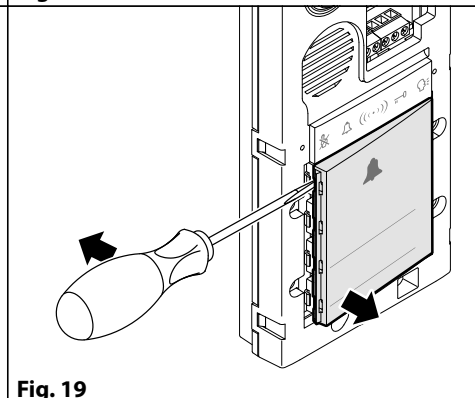

Fig. 19
1. Once the front frame has been removed (see point 1 above), pull out the nameplate levering it gently with a flat screwdriver (Fig. 19).